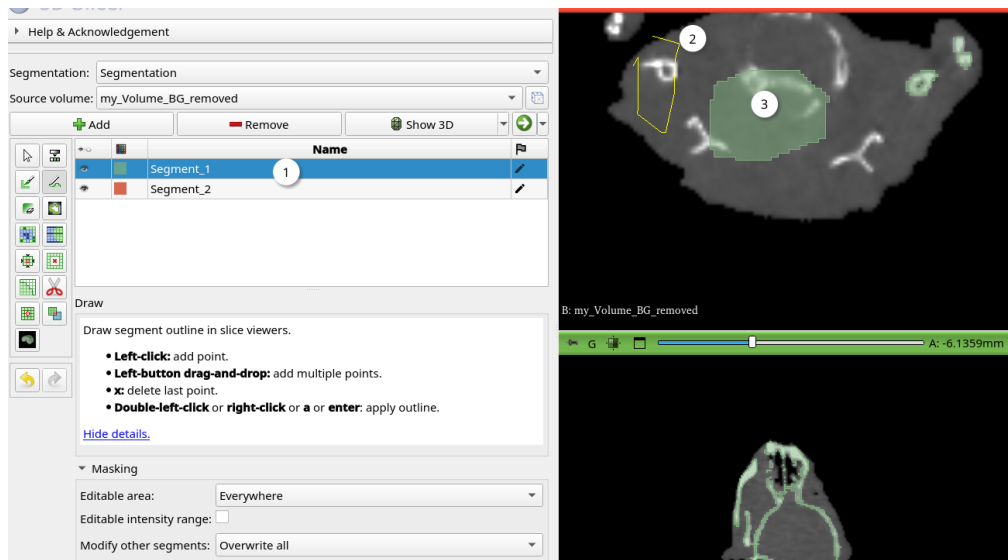

Figure 37: Draw tool
Simple drawing tool. Make sure the correct segment is selected (figure 37:1). Click on a 2D view to create points, double click to connect the last point with the first point. The encompassed area will be filled in (figure 37:3).
**Level tracing** has a similar role as the **Draw** tool (section 3.1.10). But instead of manually defining points and connecting them, the tool automatically tries to find areas of similar intensities. Hover your mouse over a 2D view to see the outline of an area, click to confirm (figure 37:2).